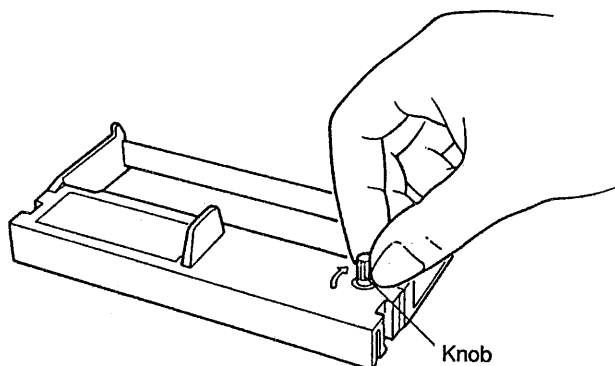

Figure 2.5 Stretching the ribbon
- (1) Use your finger to turn the knob on the ribbon cassette in the direction shown by the arrow to tighten the ribbon (see Figure. 2.5).